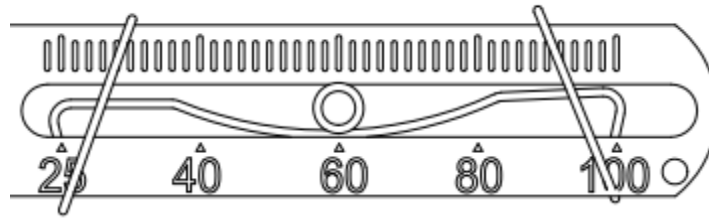

Figure 15. Feedback lever B and driving pin connection
- For feedback lever A, hold the linear stroke mounting bracket⑦ against the actuator. Plug the head of feedback lever⑤ into the U-shaped rod①. For feedback lever B, insert the driving pin⑪ into the fixed spring in the slot of the feedback lever B, as shown in Figure 15. Make the valve main stem and feedback lever are at right angle. If it cannot be at right angle, install according to the actual situation.